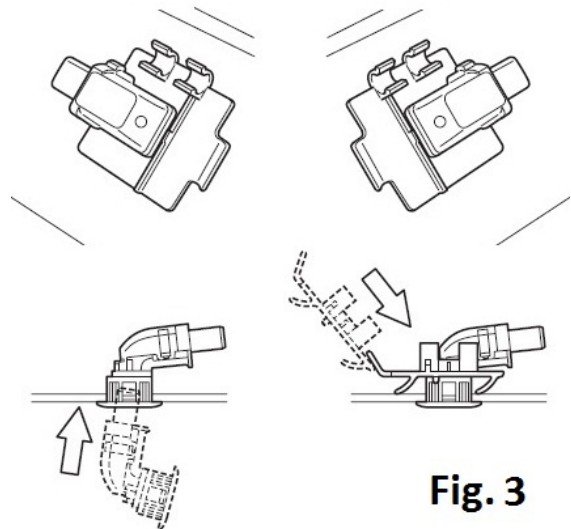

Fig. 3
4. If your FJ is equipped with the backup sensors, remove them from the plastic bumper cover by sliding the retainers off and gently pulling the sensors out. Reinstall into the Warrior rear bumper in the same manner you removed them. (Fig. 3) **Use care as they are delicate units.** If your FJ is not equipped with the sensors, plastic plugs are provided to cover the holes.